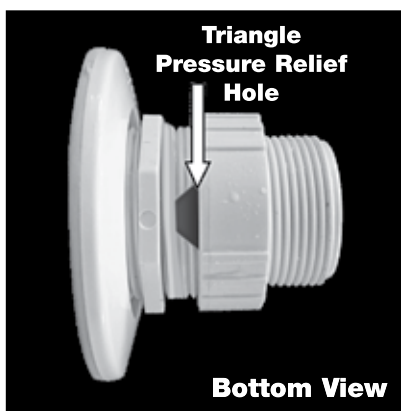

FIGURE 2
3. Securely screw the Flow-Control Fitting to the Pool Return with the Triangle Pressure Relief Hole pointed toward the pool bottom. (Fits a 1.5" threaded pool return inlet) (**Figure 2**)
4. Turn the Flow-Control Collar to the **OPEN** position, where Triangle Pressure Relief Hole is not covered by Flow-Control Collar. (**Figure 2 & 3**)